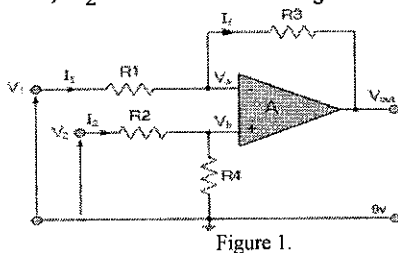

Figure 1.
8. (a) Find out the V_{out} if $V_1 = 10V$, $V_2 = 20V$. The value of $R_1 = R_2 = 1k\Omega$ and $R_3 = R_4 = 2k\Omega$ as shown in figure 1.